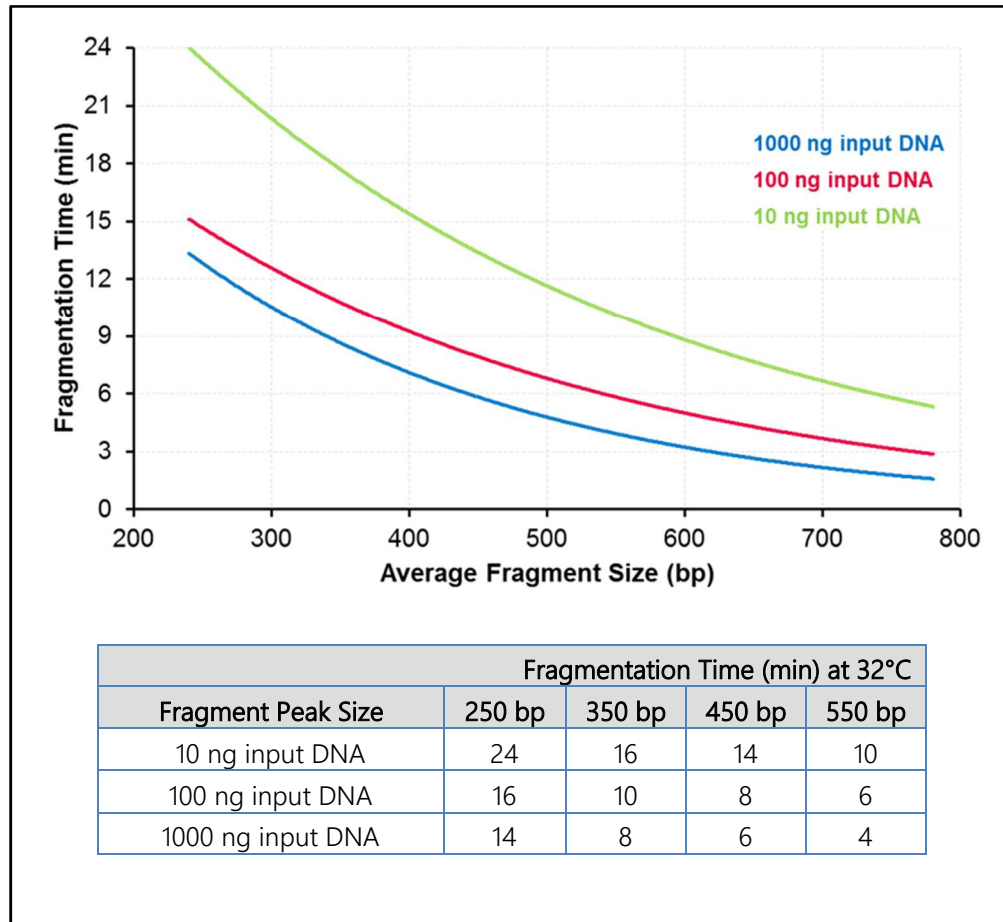

Figure 1: Guidelines for Tuning Fragmentation Size
A key feature of the sparQ DNA Fragmentation & Library Preparation Kit is that the average size of DNA fragments is tunable based on sample type, reaction time, and input amount. Since the source and amount of your experimental sample DNA will differ from any control DNA, optimal reaction conditions should be determined empirically. **Figure 1** (page 14) provide guidance on initial incubation times to test based on DNA input amount. To find the optimal conditions that yield the desired fragment size, we recommend testing timepoints at and around the time determined from **Figure 1**. This fragmentation tuning protocol involves the testing of three incubation times. This is done by adding samples to a thermal block at each test time so that all reactions are completed simultaneously. Samples are collected and purified immediately after the fragmentation and DNA polishing reaction. Bioanalyzer analysis of the collected samples will confirm if one of the timepoints yielded the desired fragmentation profile.
The optimal incubation time to obtain the desired fragment size for the experimental sample DNA must be determined. The chart and table of **Figure 1** provide guidelines of incubation times and expected sizes based on input amount.
- 1.1 Using the table and chart in **Figure 1**, select an incubation time likely to generate fragments of the desired size of your experimental DNA sample. Refer to this time as T-opt. Include two additional time points at 3 minutes shorter and 3 minutes longer than T-opt. Refer to these as T-short and T-long, respectively.
T-opt	Optimal incubation time determined from Figure 1